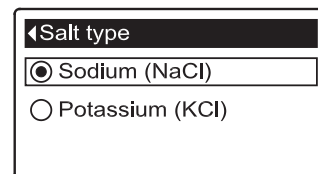

FIG. 92
5. Press the SELECT (○) button to display the Salt type menu (See Figure 92).
6. If the desired salt type already has a black dot next to it (See Figure 92), go to Step 7. Otherwise, press the conditioner/refiner’s DOWN (▼) or UP (▲) buttons to scroll to the other salt type, then press SELECT (○) to choose it.